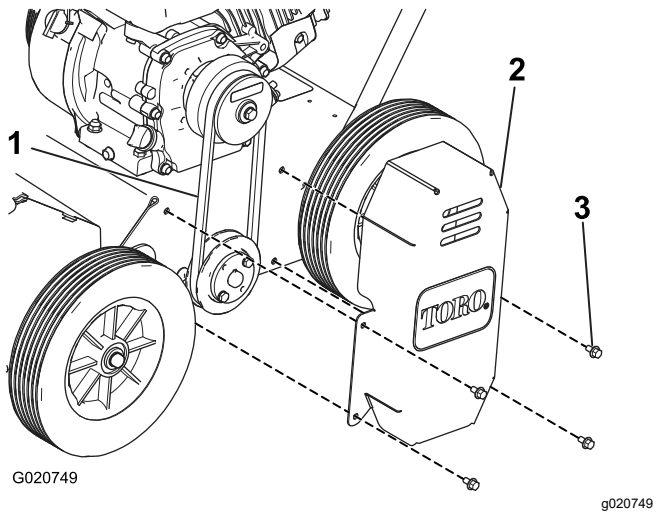

Figure 20
2. Remove the 4 bolts securing the belt cover to the left side of the machine and remove the cover (Figure 20).
3. Check the tension of the belt (Figure 20).